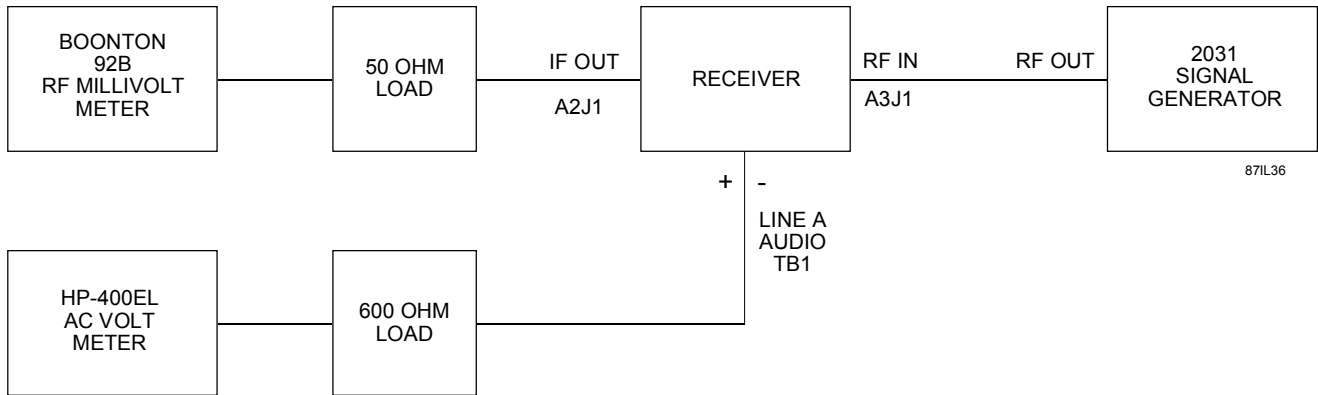

Figure 7-5. Receiver Sensitivity Performance Test Equipment Connection
1. Connect the WJ-8711A Receiver and test equipment as illustrated in *Figure 7-5*.